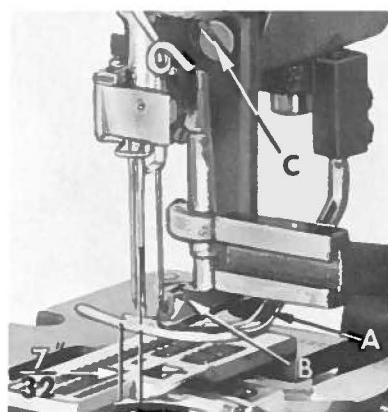
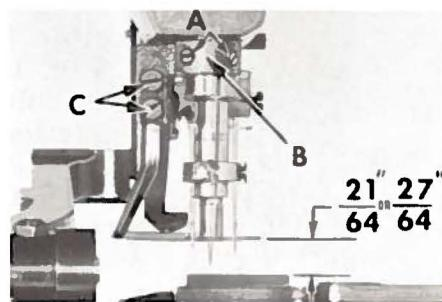

Fig. 11
Fig. 12
With the needle bar in its up position, and the spreader (A, Fig. 11) at the left end of its stroke, the upper spreader point should extend $7/32$ inch to the left of the center line of the center needle. This is accomplished by loosening screws (A, Fig. 12) and rotating spreader holder (B) to position the upper spreader point. Retighten screws.
CAUTION: The spreader holder is also the lower thrust collar for the spreader shaft, so when tightening screws (A, Fig. 12) be sure to push down on the spreader shaft and up on the spreader holder.
The spreader should clear the left needle shank by $1/64$ to $1/32$ inch on all machine Styles. The bottom of the spreader should be $21/64$ inch above the throat plate on machine Styles 57900 F, G, H and $27/64$ inch above the throat plate on machine Style 57900 N (Fig. 12). Adjustment can be made by loosening screws (C, Fig. 12) and position spreader as required.
The left edge of the spreader thread guide (B, Fig. 11) should clear the right needle by approximately $\frac{3}{32}$ inch and be kept close to the top of the spreader. This can be accomplished by loosening screws (C) and moving the guide as necessary.